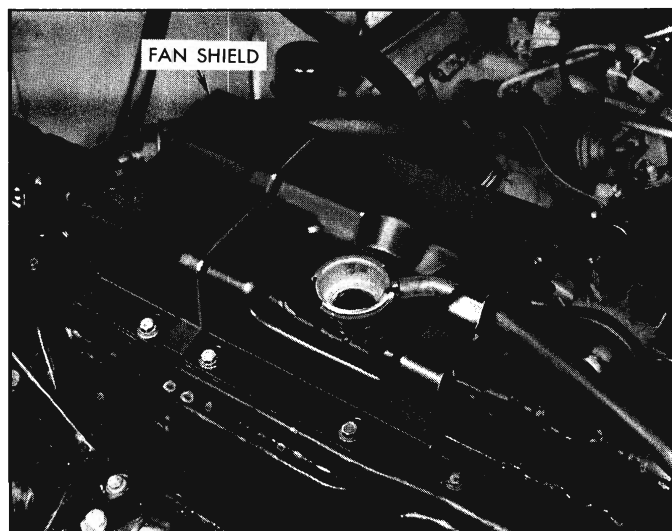

Fig. 6A-18 Radiator Fan Shield
3. Remove radiator fan shield (Fig. 6A-18).